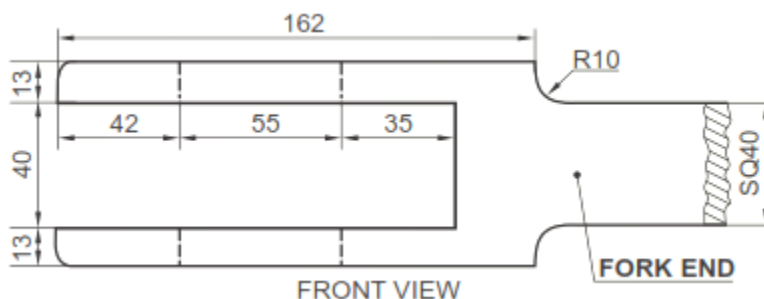

Figure 1 ; fork end
- The fork end in figure 1 is to be fabricated in the workshops out of a flat bar work piece of the dimension 20mm by 80mm by 200 mm length.